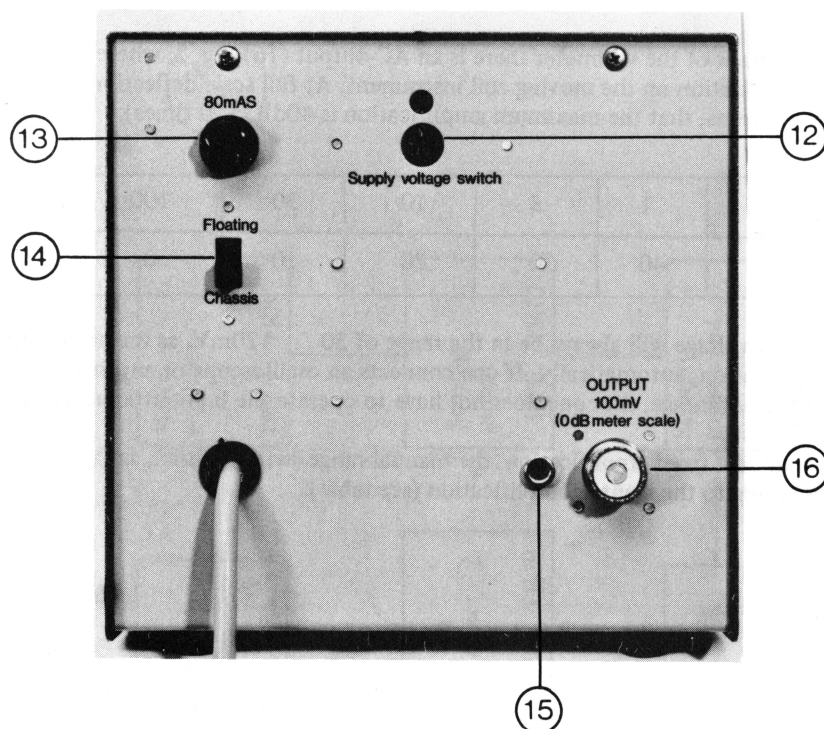

Fig. 2 RV9 Voltmeter, rear view.
RV9 used as amplifier. On the back of the voltmeter there is an AC-output (16), fig. 2, where the output voltage is proportional to the deflection on the moving coil instrument. At full scale deflection («0 dB») the output-voltage is 100mV, that means, that the maximum amplification is 40dB (100 times).